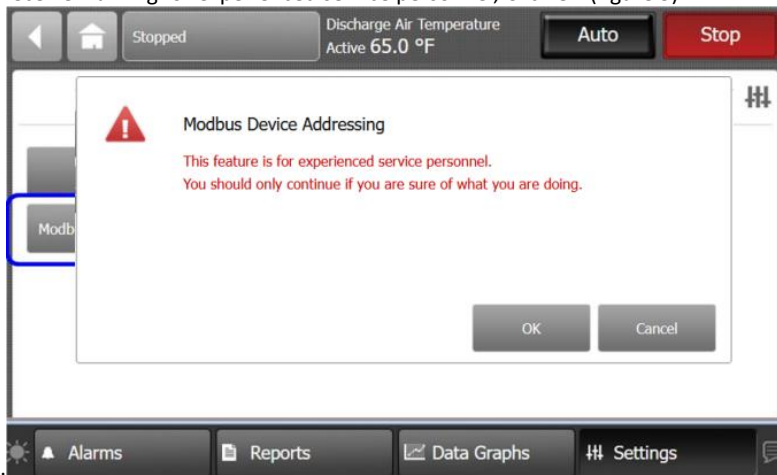

Figure 5:
2.3. You will receive warning for experienced service personnel, Click OK (figure 5).